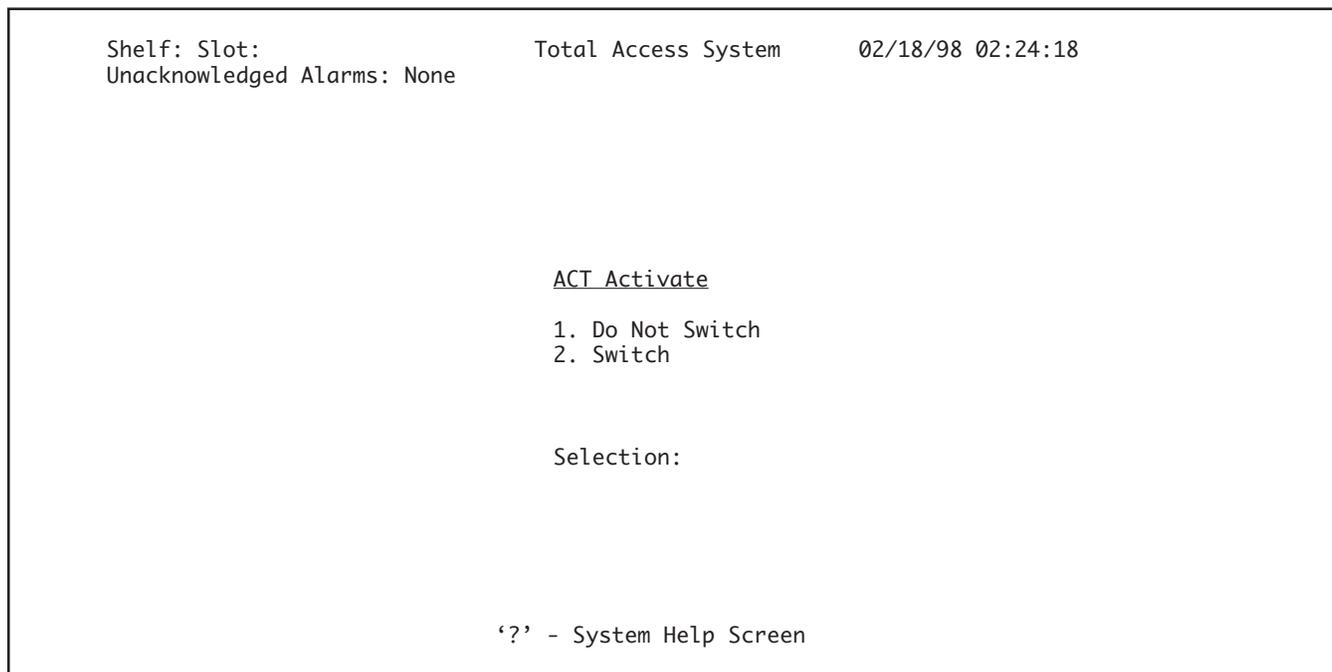

Figure 35. Protection Switch Activate Screen
2. Type “2” and press Enter to switch the Working QFO-C to protect (**Figure 35**).